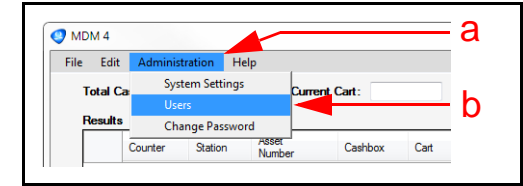
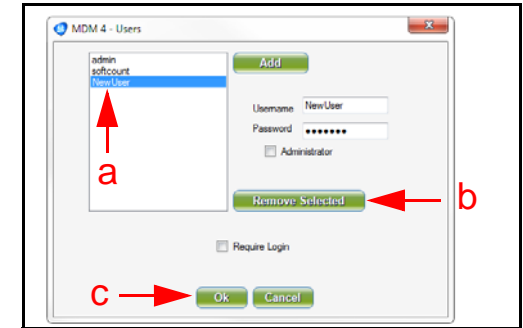

Figure 9 Select User Functions Menu
Figure 10 Delete Username Screen
1. Click on the 'Administration' pull-down Menu (Figure 9 a) located on the MDM4 Main Screen, and select 'Users' (Figure 9 b) from the list. The MDM4 Users Screen shown in Figure 10 will appear.
2. From the list of Users (Figure 10 a), click on the Username that is to be deleted.
3. Click the 'Remove Selected' Screen Button (Figure 10 b) to remove the selected User from the System. The Username will then be removed from the list of Users.
4. Click on the 'OK' Screen Button (Figure 10 c) to update the system and return to the MDM4 Main Screen.